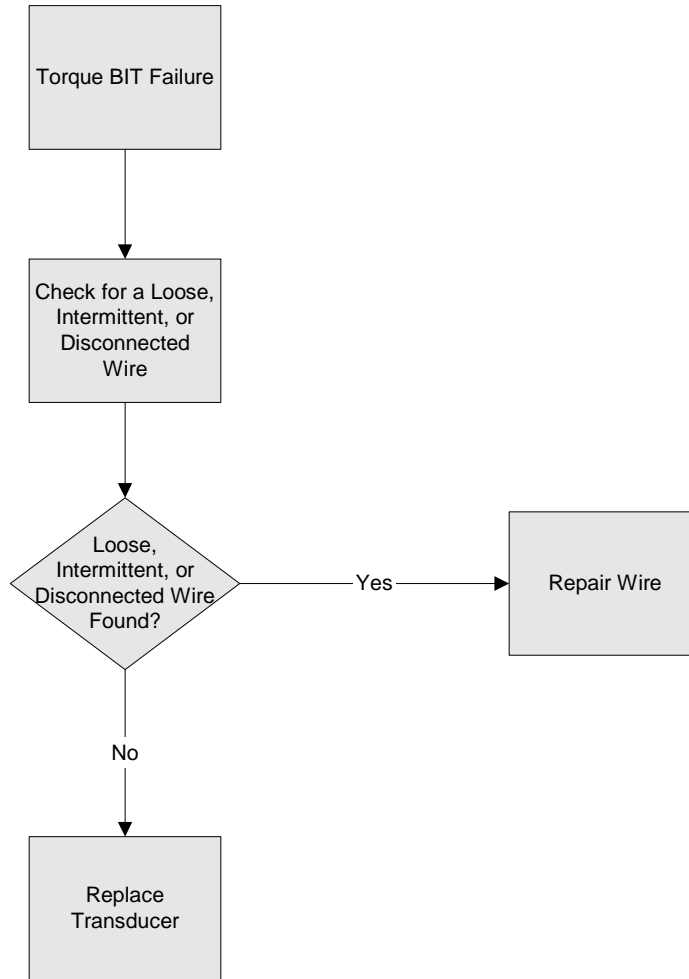

Figure 40: Torque BIT Failure Troubleshooting
- c. Transducer BIT Failure – Refer to Figure 40.